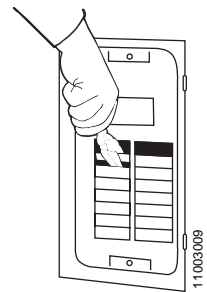

Figure 8: Twistout Removal
1. Remove the cover twistouts. See Figure 8.